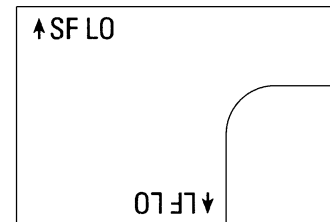
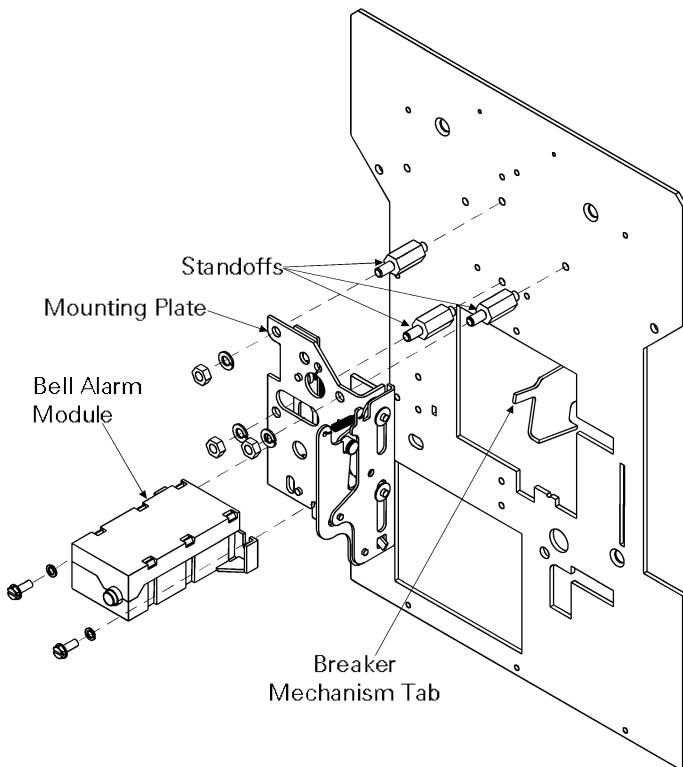

Figure 4. Orientation of the label on the Bell Alarm with Lockout module.
Figure 2. Installing the Bell Alarm with Lockout.
5. Screw the three standoffs into the front plate of the breaker, as illustrated in Figure 2.
7. Line up the Bell Alarm with Lockout module on the mounting plate, as shown in Figure 2, so that the solenoid plunger and locating pin fit in the appropriate holes. The label on the end of the module appears as in Figure 4, with the legend \uparrow SF LO horizontal. Attach the module with the two screws and bushings provided.